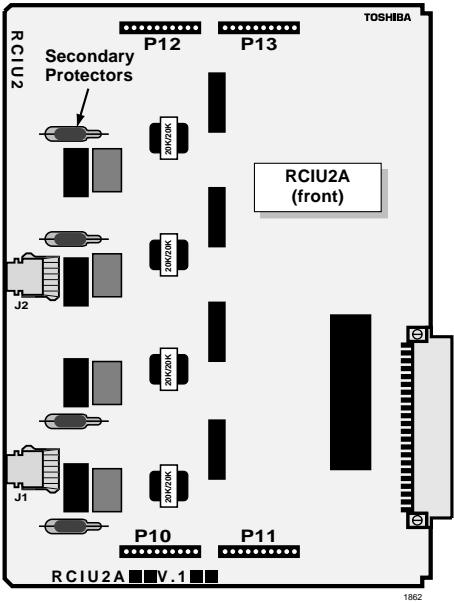

Figure 7-12 DK40i RCIU2 PCB Installation
- Install RCIU2 in *slot 17 only* (see Figure 7-12 and Chapter 2 – DK40i Configuration.)
See Figure 7-12 and Table 7-10 for RCOS controls, indicators, and interface connectors.